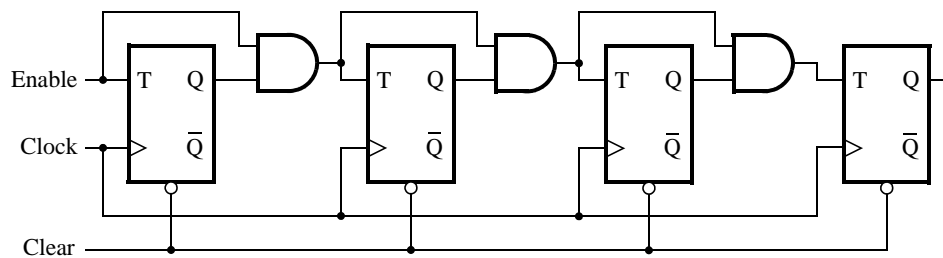

Figure 1: A 4-bit counter.
Consider the circuit in Figure 1. It is a 4-bit synchronous counter which uses four T-type flip-flops. The counter increments its value on each positive edge of the clock if the *Enable* signal is asserted. The counter is reset to 0 by setting the *Clear* signal low. You are to implement a 8-bit counter of this type.
1. Write a VHDL file that defines a 8-bit counter by using the structure depicted in Figure 1. Your code should include a T flip-flop module that is instantiated 8 times to create the counter. Compile the circuit. How many logic elements (LEs) are used to implement your circuit? What is the maximum frequency, F_{max} , at which your circuit can be operated?
5. Implement a 4-bit version of your circuit and use the Quartus II RTL Viewer to see how Quartus II software synthesized your circuit. What are the differences in comparison with Figure 1?